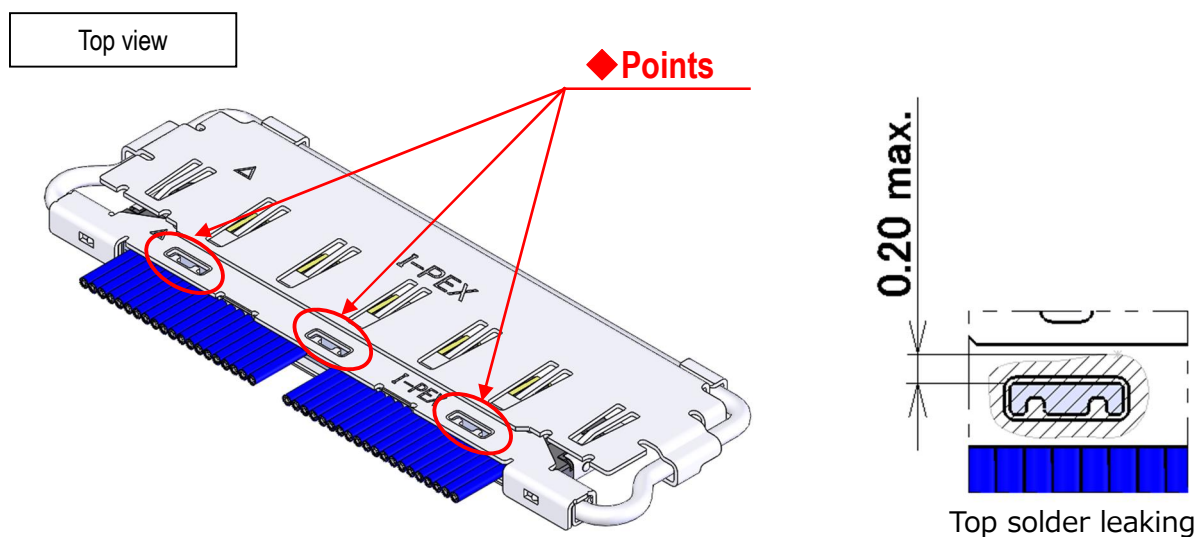

Fig.12 Soldering of Shell-A and Ground Bar
- ② Soldering SHELL-A, B and Ground Bar with the soldering iron at all designated points is recommended. (Fig.12,13 ◆ point)